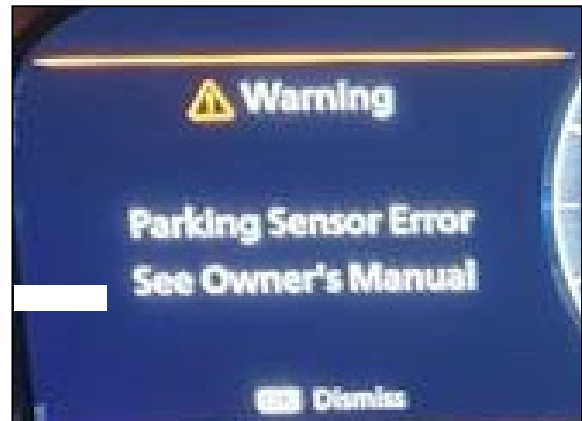

Figure 47
- If a parking sensor error similar to the one shown in Figure 47 is present, verify that all front bumper fascia sub-harness connectors are connected and locked.